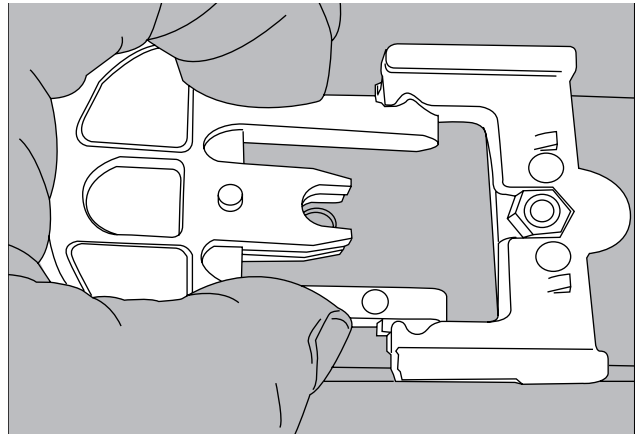

FIGURE 11
11. With the loose buffer tube attached, remove the SLIDE-N-LOCK splice tray from the SLIDE-N-LOCK splice tray bracket. (Figure 11)